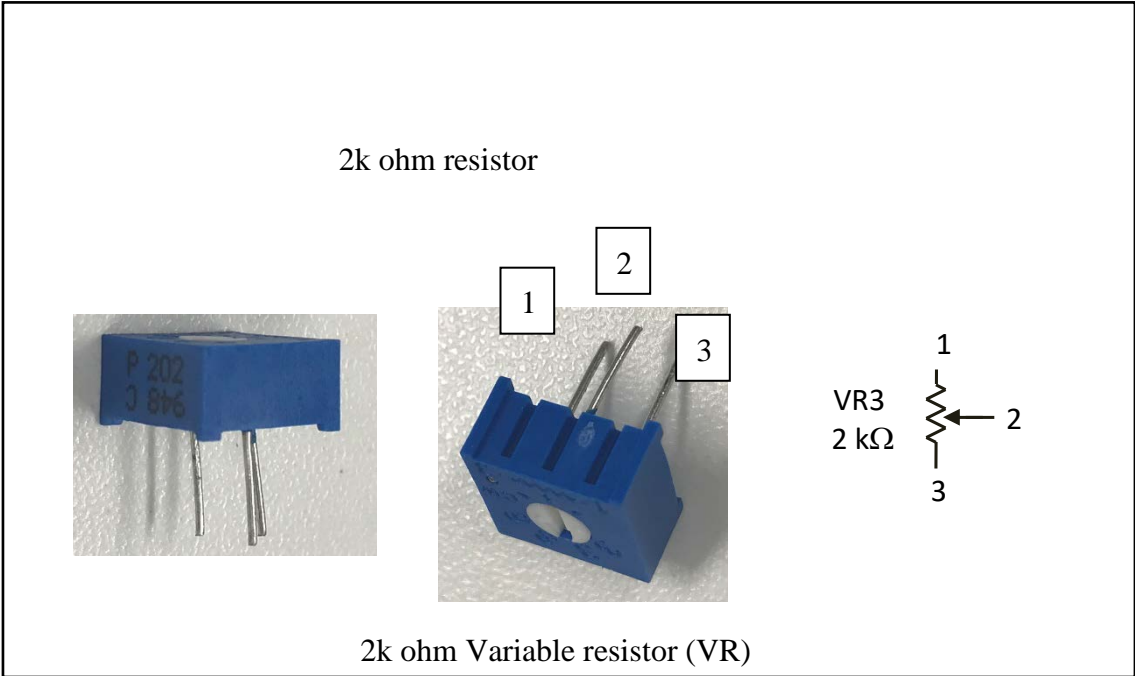
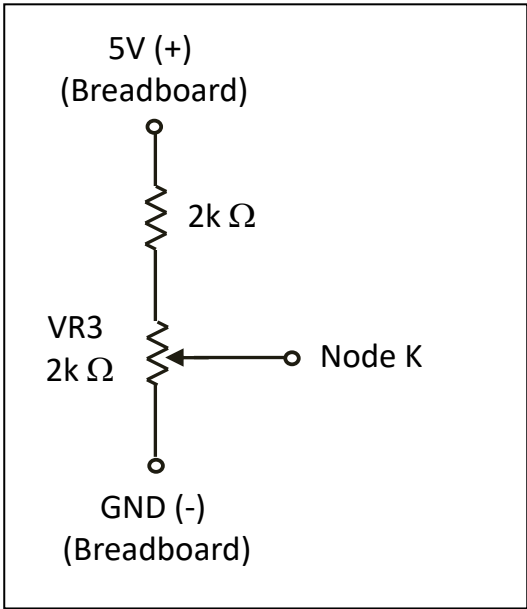
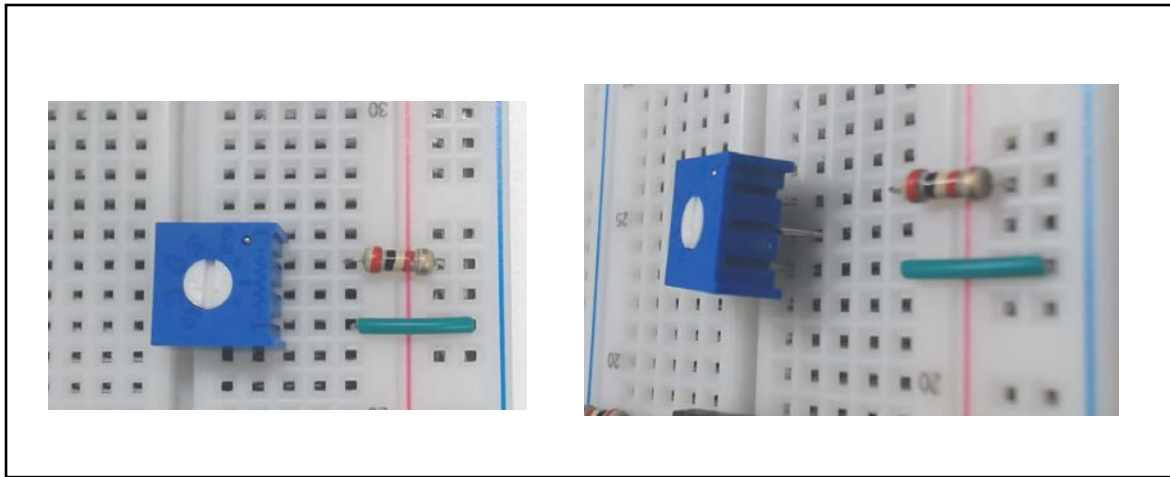

Fig. 27
Fig. 28
Fig. 29
5.6.7. The 2k ohm resistor and 2k Variable Resistor (VR) are shown in Fig. 27. Connect the threshold voltage circuit as shown in Fig. 28, and put all the components on the breadboard as shown in Fig. 29. You could refer to the video (video12-Threshold_voltage.mp4) for demonstration.
[Check point 7] Adjust the VR3 in Fig. 28 to obtain the voltage at Node K to around 0.4 Volt using the digital multimeter.